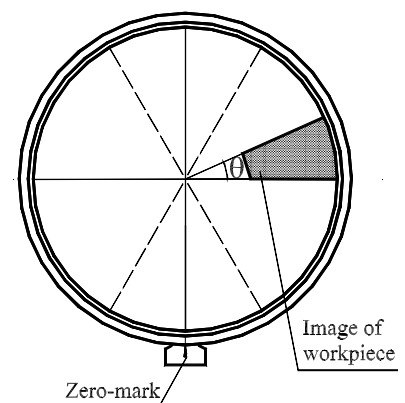

Fig.12 Angle measurement
7.2.3.2 Adjust the tip of the angle into the graduated center of the screen (See Fig. 12).